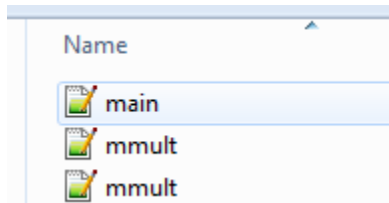

Figure 25 – MiniZedMM Source files
- a. Note: From the Factory the switch's protective film should be removed and already set to F. If it is not, the switch will look similar to Figure 25.